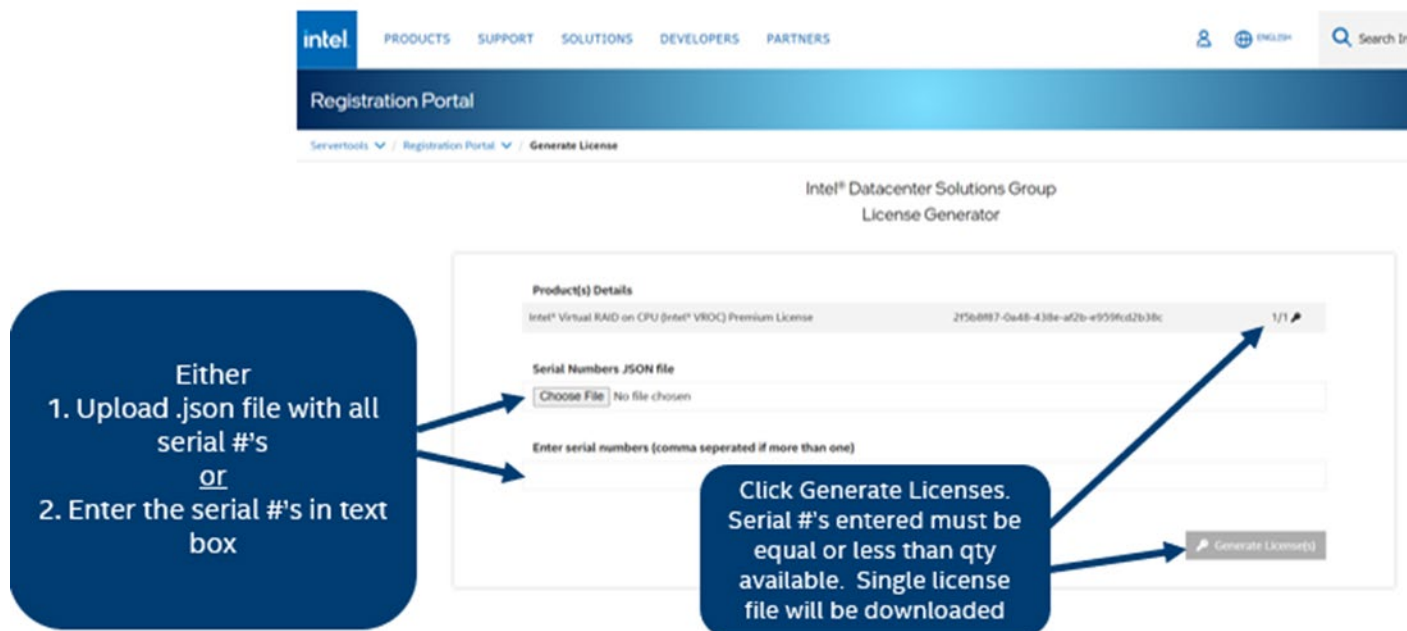

Figure 55. Activate Key for Intel® Virtual RAID on CPU Standard/Premium Software Key
- Multiple board serial numbers can be entered in the text box or by uploading a .JSON file with the list. Only a single license file will be downloaded. This single license file will work with all systems that match one of the serial numbers. (see Figure 55)